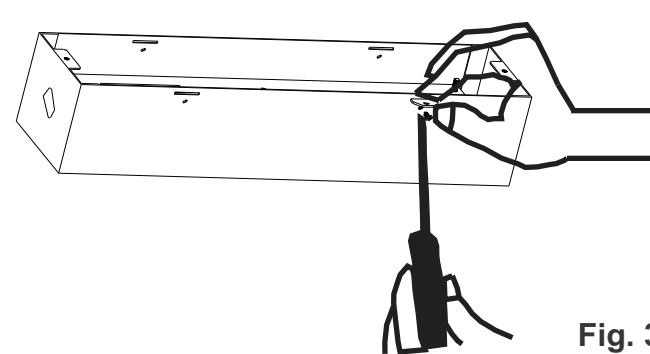

Fig. 3
3. Secure the screw holders with the small screws (provided) as shown in Figures 3 and 4.